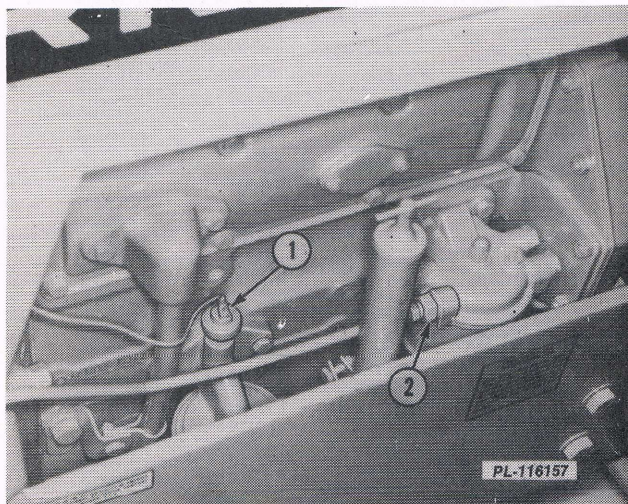

Fig. 5
21. Disconnect the oil pressure sending wire (1). Disconnect the fuel inlet tube (2) at the filter. See Fig. 5.